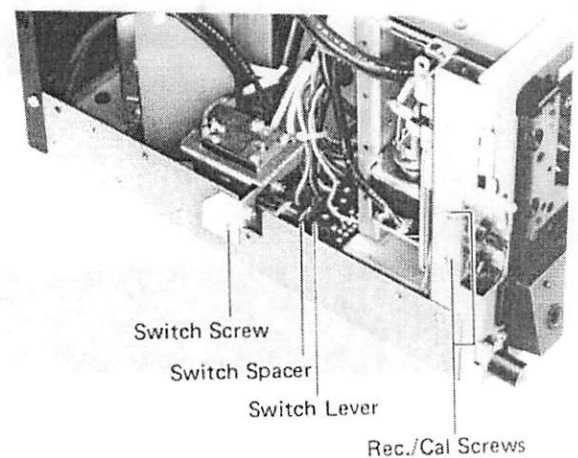

Figure 15
- (1) Remove one screw as shown in Figure 15.
- (2) Detach the switch lever from the switch spacer as shown in Figure 15.
- (3) Disconnect all wires from the P.C. Board.
- (1) Remove two screws as shown in Figure 15.
- (2) Disconnect all wires from the P.C. Board.